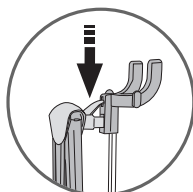

fig.6
2. Press it vertically to tighten it on the hook - fig.6